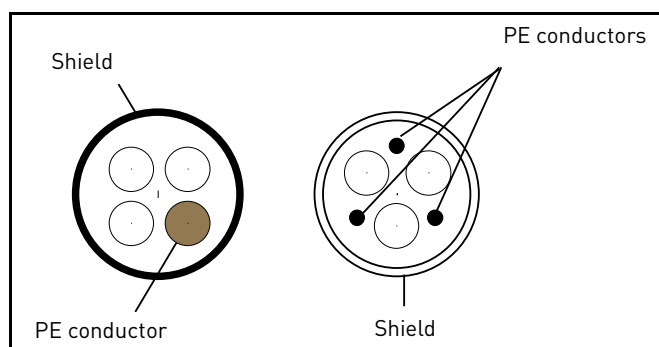

Figure 11.
- 2 = Symmetrical power cable equipped with concentric protection wire and intended for the specific mains voltage. (MCMK or similar recommended). See Figure 11.